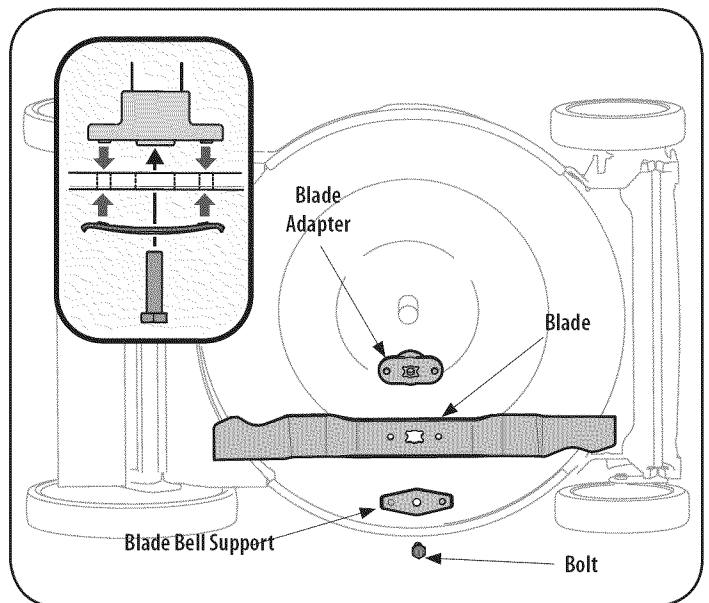

Figure 20
2. Remove the bolt and the blade bell support which hold the blade and the blade adapter to the engine crankshaft. See Figure 20.
5. Lubricate the engine crankshaft and the inner surface of the blade adapter with light oil. Slide the blade adapter onto the engine crankshaft. Place the blade on the adapter such that the side of the blade marked "Bottom" (or with part number) faces the ground when the mower is in the operating position. Make sure that the blade is aligned and seated on the blade adapter flanges. See Figure 20 inset.